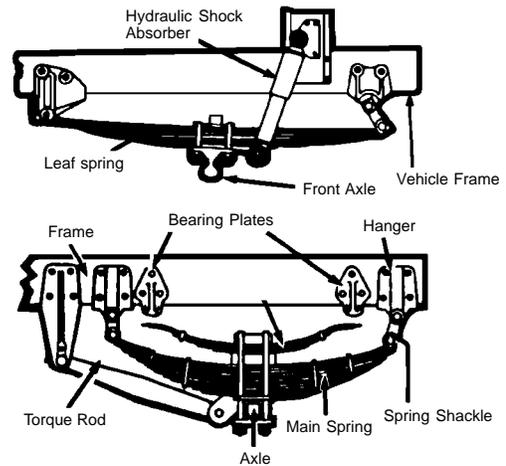

Figure 2-2: Key suspension parts.
- Spring hangers (Figure 2-2) that allow movement of axle from proper position.
- Torque rod or arm, u-bolts, spring hangers, or other axle positioning parts that are cracked, damaged, or missing (Figure 2-2).